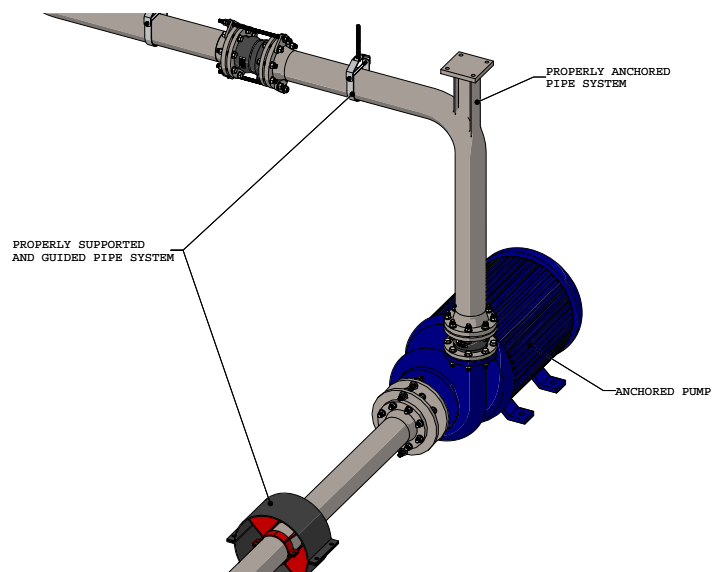
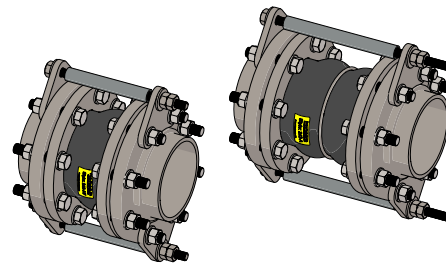

Figure 3: Properly Anchored and Supported/Guided System
Figure 14: Figure 3 Compression Sleeve Configuration
4.2.4 Figure 3: Compression Sleeve Configuration:
The Figure 3: Compression Sleeve configuration shown in Figure 14, otherwise known as Figure 3 controls both the extension and compression capabilities of the expansion joint as well as restrain the pressure thrust loads experienced across the expansion joint. Instead of utilizing internal hardware to control the compression capabilities a compression sleeve is used.